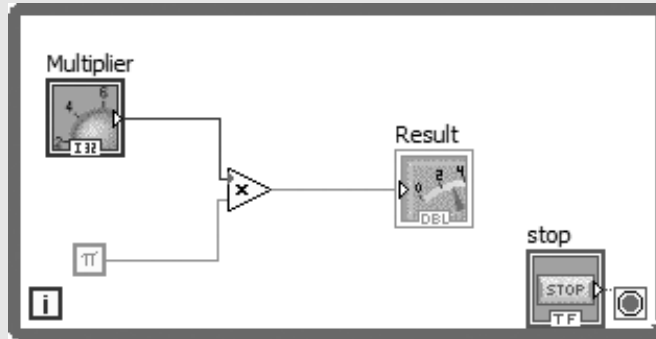

Figure 3.13
On the block diagram (see Figure 3.13) . . .
- Wire the block diagram as shown in Figure 3.13.